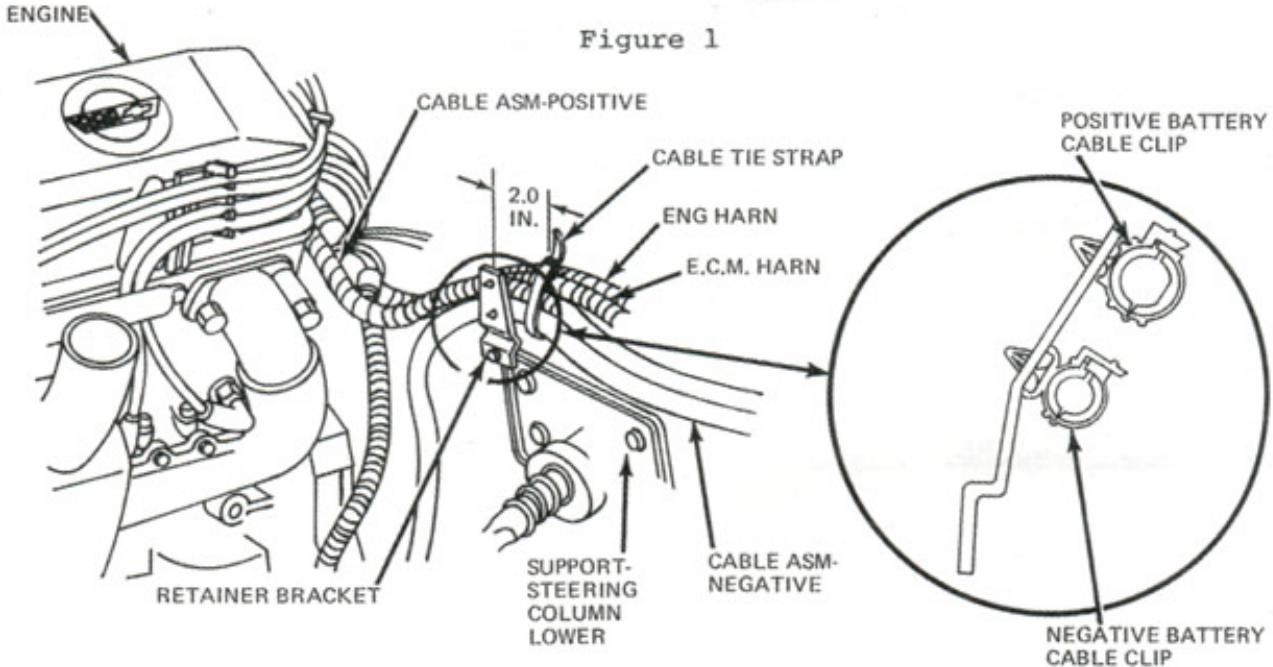

Figure 2
6. Install the supplied conduit clips on supplied bracket. The larger inside diameter clip in the top hole and the smaller in the lower hole. Both battery cables must be routed on the rear side of the new harness bracket. (Figure 2)
(FIGURE 2)